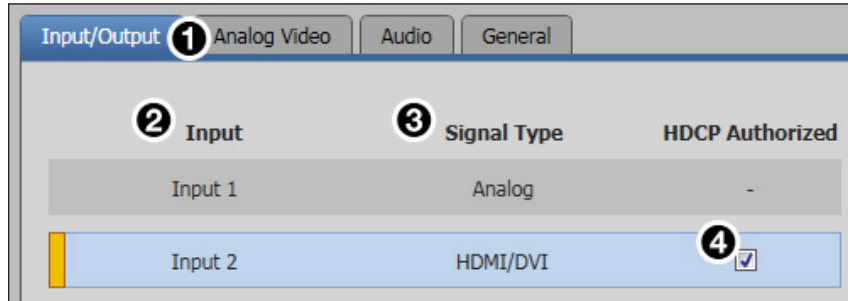

Figure 34. Input/Output Tab
Click the **Input/Output** tab (see figure 34, ❶) to open the Input/Output screen. It contains input information and options to apply automatic settings to individual inputs.